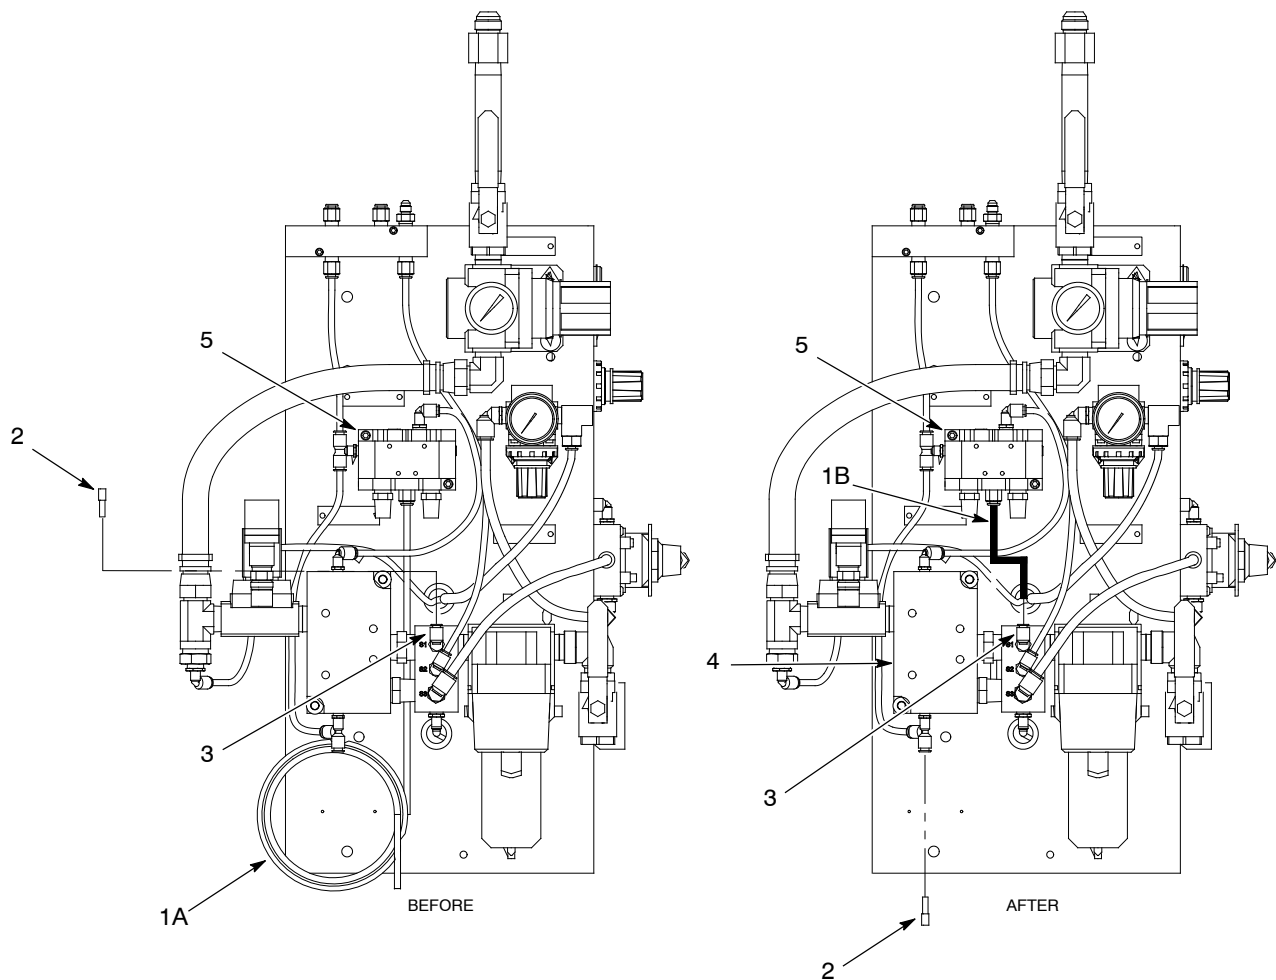

Figure 5 Typical Standalone Configuration
1. See Figure 5. Remove the plug (2) from PORT S1 on the main air manifold (3). Install the plug into the T-fitting on the air motor control valve (4).
2. Cut the tubing (1A) connected to the air logic valve (5) to approximately 7 inches.
3. Connect the 7-inch piece of tubing (1B) from the air logic valve (5) to PORT S1 on the main air manifold (3).